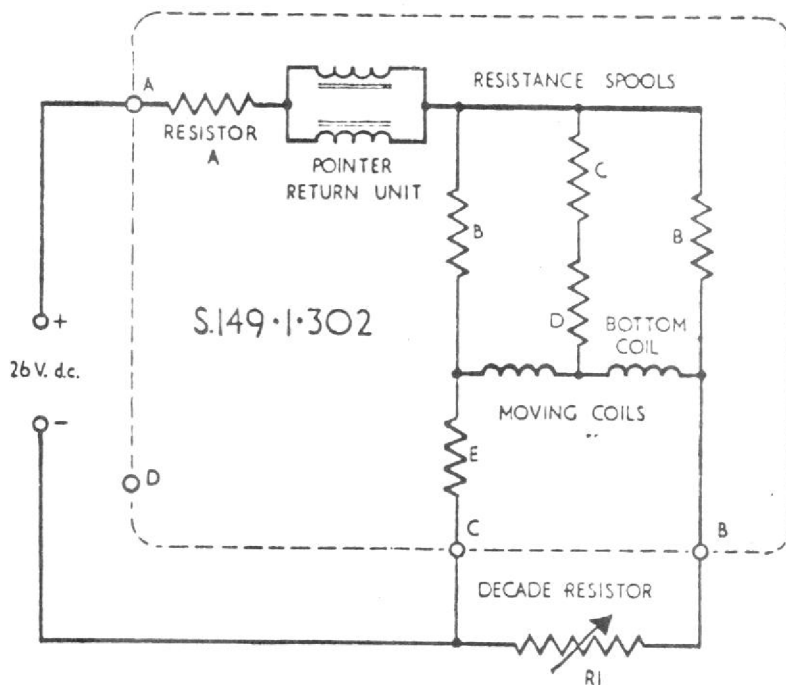

Fig.2 Calibration circuit diagram
- (1) Connect the indicator into the circuit shown in Fig.2.
- (2) Check the calibration of the indicator against the values given in the following Calibration Table.